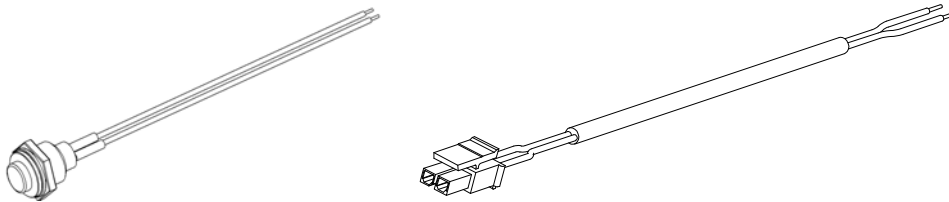

Figure 5 Alarm Button and Alarm Input Harness
- 2 Attach the black wire of the Alarm Switch to the black wire of the Alarm Input harness. See Figure 5.